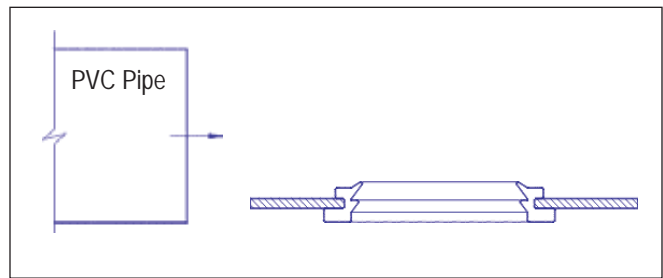

FIGURE 5-1
- 5.2.1. Inside the grommet, there are two sealing bars that seal between the piping and the grommet. The pipe can only be installed in one direction. Determine the direction of the grommet so the pipe can be installed correctly. (See FIGURE 5-1.)